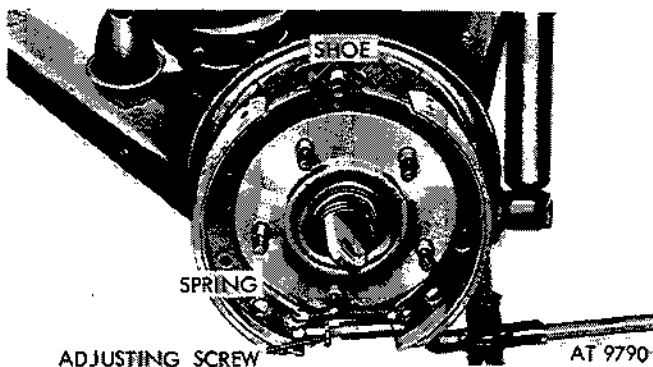

Figure 2-371. Remove brakehoes.
(5) Remove both brakeshoes with adjusting screw assembly and adjusting spring intact from backing plate (fig. 2-371). Lift off entire assembly.
(6) Remove brakehoe adjusting screw assembly and spring from brake shoes (fig. 2-371).